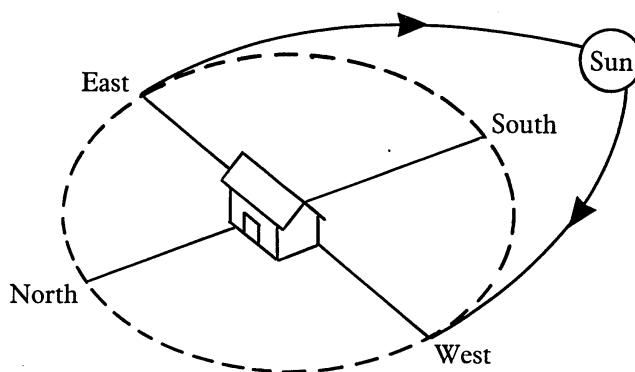

Figure 4 Movement of the Sun during the day
- D You can use the Sun's heat to help keep the bungalow warm. Look at Figure 4, then answer questions 4 to 6.